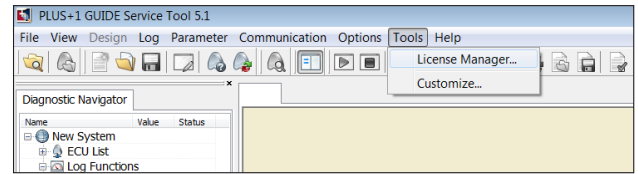

Figure 16. WST License Manager
- Click on "Tools". On the drop-down menu, click on "License Manager" (Figure 16).